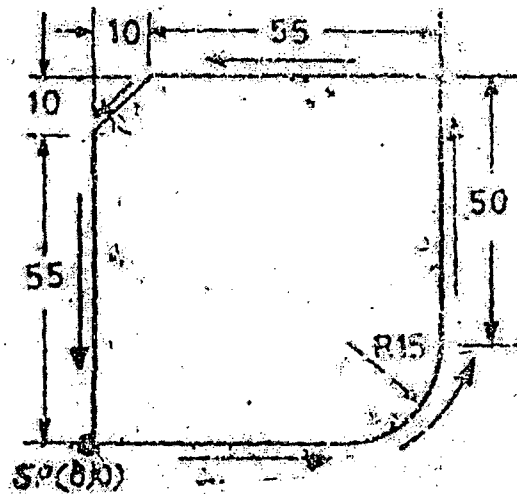

Fig.2
- (ii) Draw the various network topologies used in CAD Environment. (4)
- (OR)
13. (b) Describe Production Flow Analysis used in G.T. to group parts into families. (16)
14. (a) Prepare a manual part programme to profile mill the given job shown in Fig. 2. Other (16)